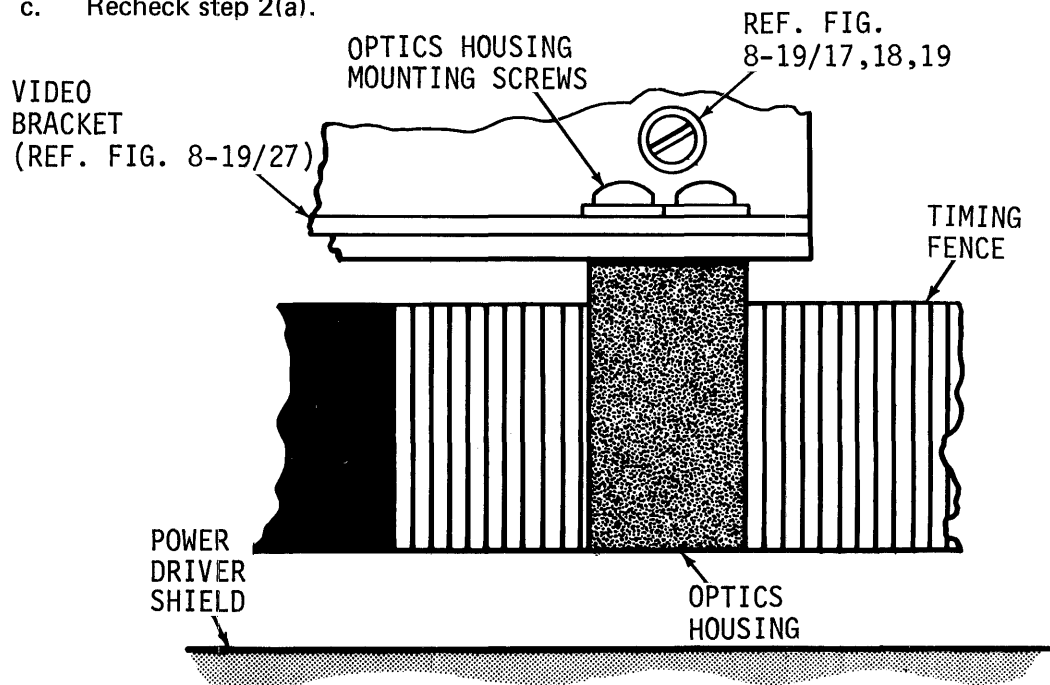

Figure 5-26. VERTICAL AND HORIZONTAL ALIGNMENT OF SINGLE TRACK OPTICS HOUSING
2. Vertical and Horizontal Alignment of Single Track Optic Housing (Fig. 5-26)